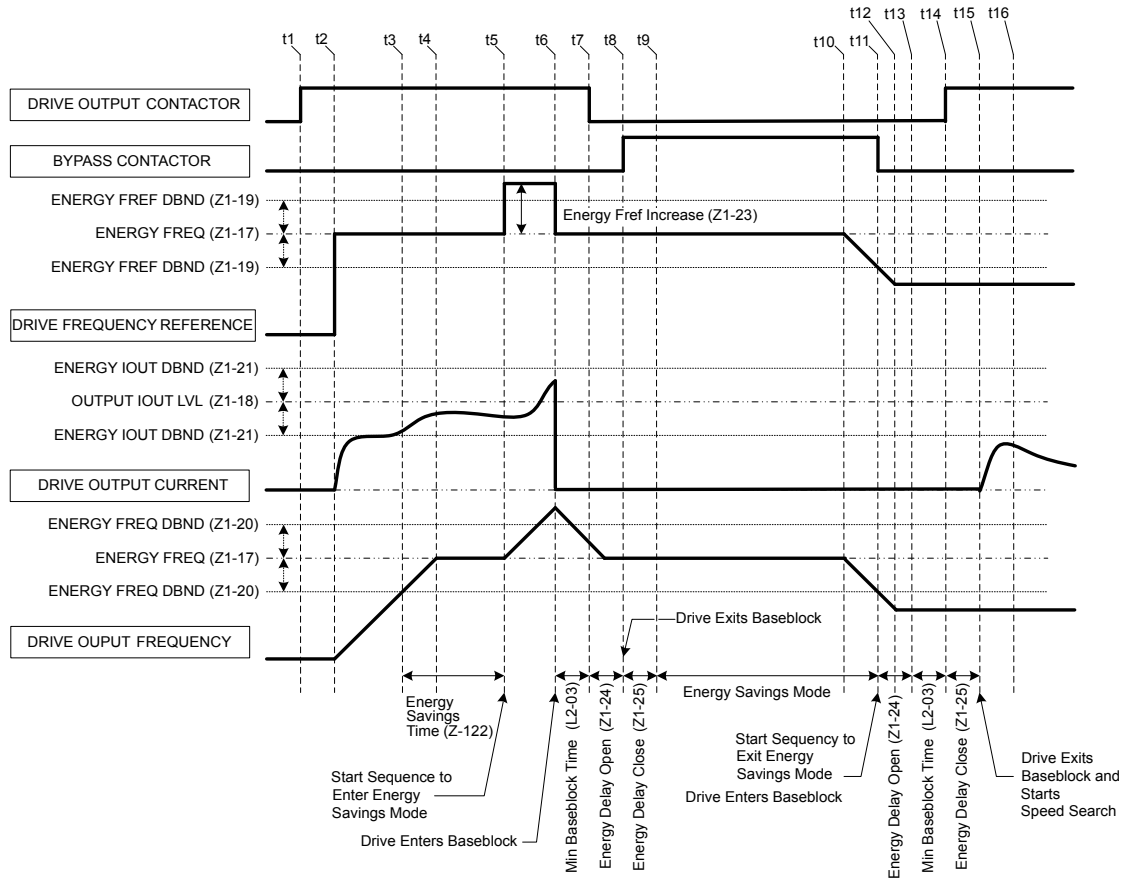

Figure 5.61 Drive Bypass Energy Savings Mode Sequence Example
7. Then the drive catches a spinning motor via Speed Search and follows frequency reference to take control. Refer to *Figure 5.61* for an example of the sequence that is followed when entering and exiting the Energy Savings Mode.